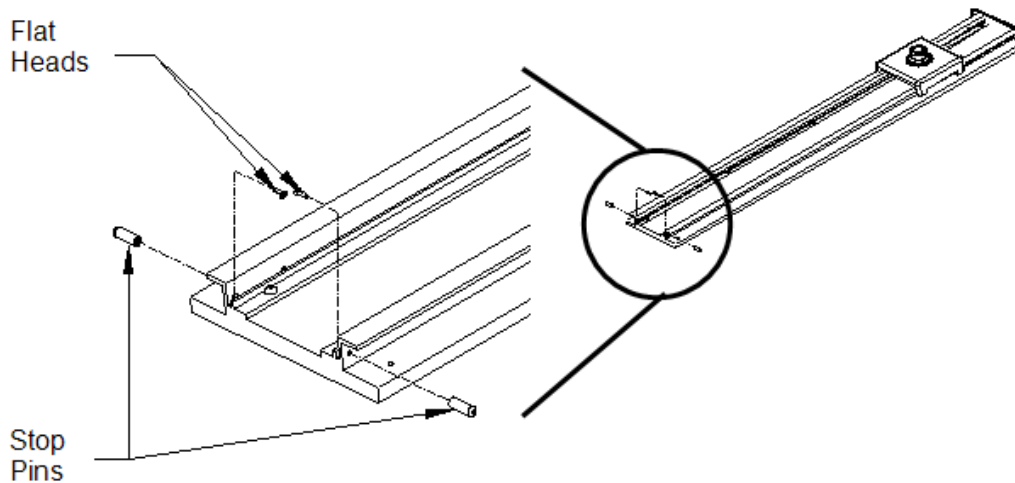

Figure 29. Stop Pins Removal
- Remove the two stop pins P/N 1001076 and the #6 flat head screws P/N 0001155 holding the pins in place from the track end with the end plate already removed. See Figure 29. Stop Pins Removal.